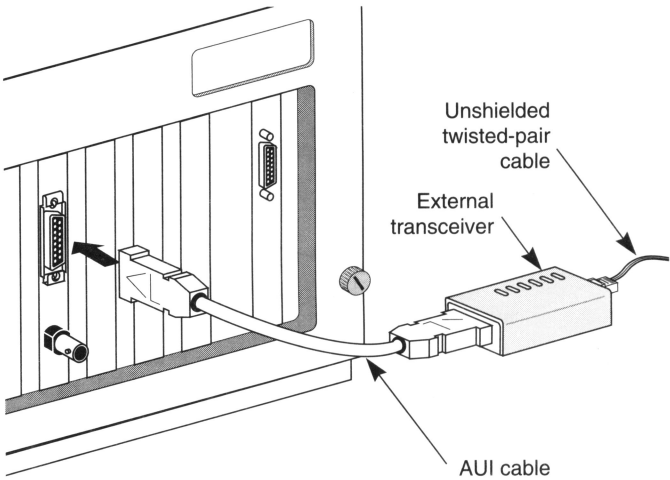

Figure 5-6. Example of Attaching the External Transceiver
- 3. Connect the other end of the AUI cable to the external transceiver, as shown in Figure 5-6.